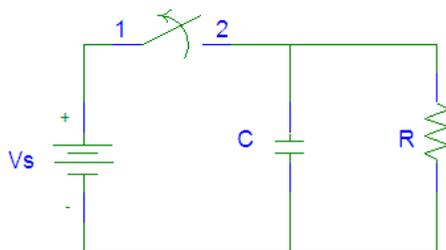

Figure 1: RC Circuit
If we assume that the switch in the circuit shown below in Figure 1 has been closed for a “long” period of time, the voltage across the capacitor (V_c) will be equal to the voltage V_s . We define a “long” period of time as being at least 5τ , where $\tau = RC$, the time constant of the circuit.
1. Construct the circuit shown in Figure 1 with $R = 470 \text{ k}\Omega$ and $C = 47 \text{ }\mu\text{F}$. For the switch, just use a wire that can be easily disconnected from the power supply. If your capacitors are electrolytic, they must be placed in the circuit with the negative side of the capacitor on the negative side of the power supply. Place the Wavetek multimeter in parallel with the capacitor, and set it to the 20 V DC setting.